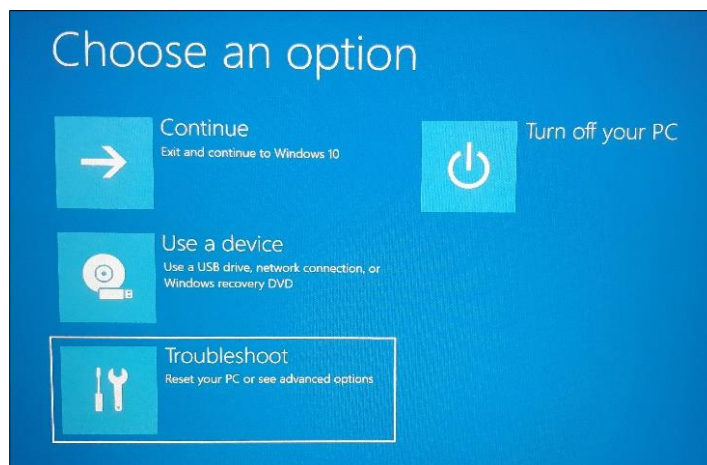

Figure 5.9. Troubleshoot Option
3. When the **Choose an option** screen appears as shown in Figure 5.9, release the Shift key.